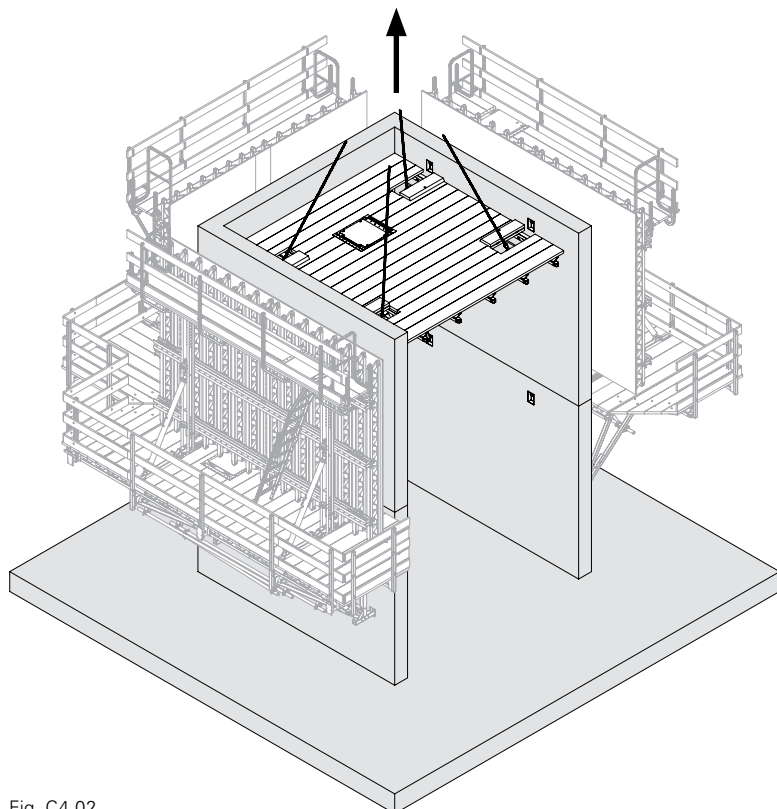

Fig. C4.02
6. Fly out the Shaft Platform BR and place on a suitable support device. (Fig. C4.02 + C4.03)